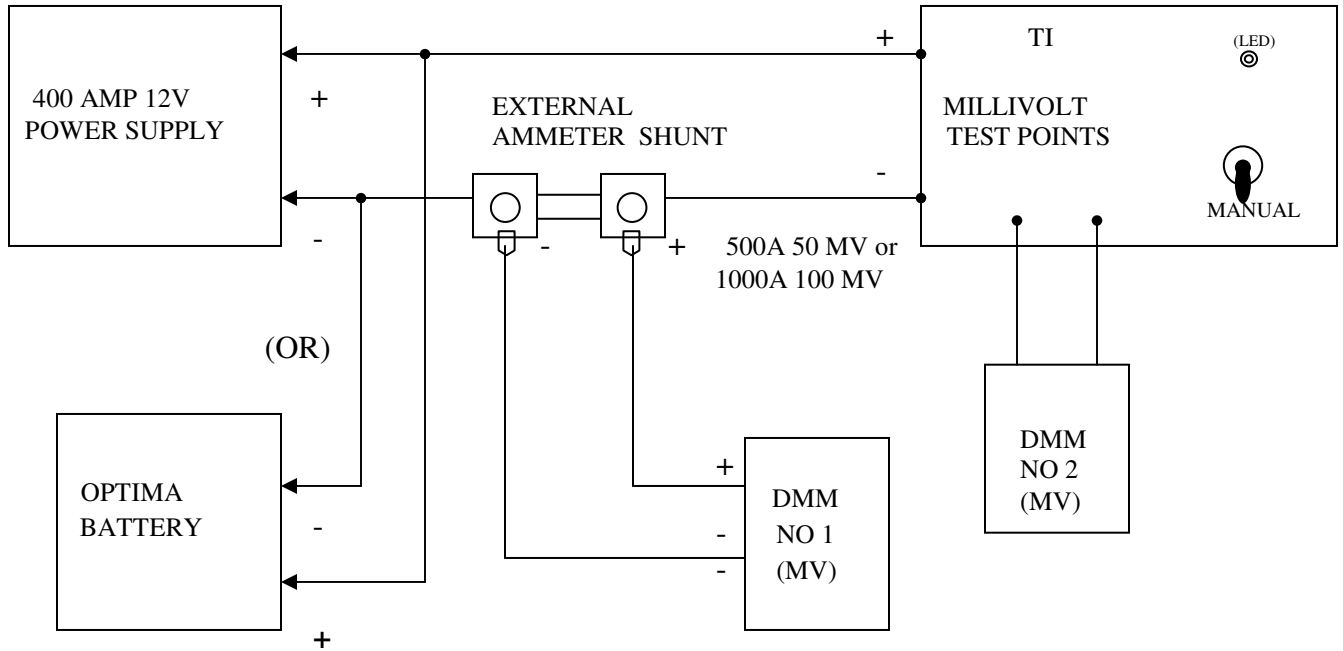

Figure 2 Ammeter Test Setup
The ST-375 (P/N 37512) High Rate Discharge Unit is for testing SLI (Starting, Lighting, Ignition) engine start batteries. It is powered only by the battery on test. It is used to accept or reject 12-Volt engine start batteries which have been fully charged. The ST-375 is designed to work on batteries that have CCA (Cold Cranking Amps) ratings in the approximate range of 700 CCA to 1,000 CCA. However, it will also accurately test batteries with a higher CCA rating such as those used in large commercial trucks and military tactical vehicles. The unit is essentially a SAE (Society of Automotive Engineers) tester which places a nominal 375 Ampere (at approximately 10.5 V) load on the battery for a period of 15 seconds. A digital voltmeter on the unit reads and holds the battery voltage at the end of 15 seconds. If the voltage is at or above 10.0 volts, the battery is ready for issue. If the voltage is below 10.0 volts the battery is rejected. The battery may be recharged for another test depending on circumstances such as if this were a first attempt to condition the rejected battery. The ST-375 has a high wattage resistive load bank. The resistors do not glow during the 15 second test. The control switch has an automatic position which is pressed, released, and tests for 15 seconds. A manual position can be pressed for less than 15 seconds. An internal 500 Ampere Shunt and panel ammeter has its test terminals (Kelvin Terminals) connected to a pair of test points on the front panel. The voltmeter also has test points. The ampere (current) reading may vary from battery to battery depending on the battery voltage under test and also on the time that has elapsed with previous use. The reading may be verified, iaw FIG.2.
Connect the equipment as shown in Figure 2.
4.1.15 TI Internal Shunt and Panel Ammeter accuracy.	Ammeter Reading Verification: Within 15 Amps (Refer to paragraph 4.1.2, figure 2)